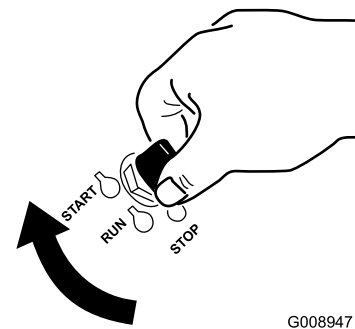

Figure 16
1. Turn the ignition key to the Start position (Figure 16). When the engine starts, release the key.
6. Turn the ignition key to the Start position (Figure 16). When the engines starts, release the key.